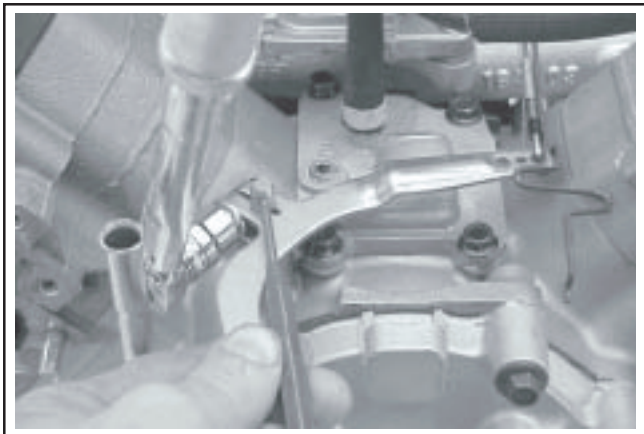

Figure 11-86. Setting Governor and Tightening Nut.
3. Insert a nail into the hole in the cross shaft and rotate the shaft **COUNTERCLOCKWISE** as far as it will turn. Then tighten the hex. nut securely. See Figure 11-86.